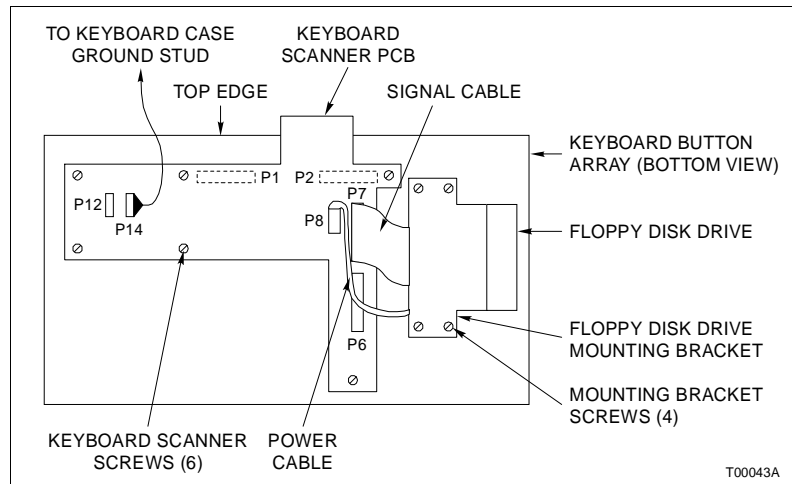

Figure PR59-2. Keyboard Button Array Replacement
4. Remove the ground wire from P14 on the keyboard scanner PCB (Fig. PR59-2).